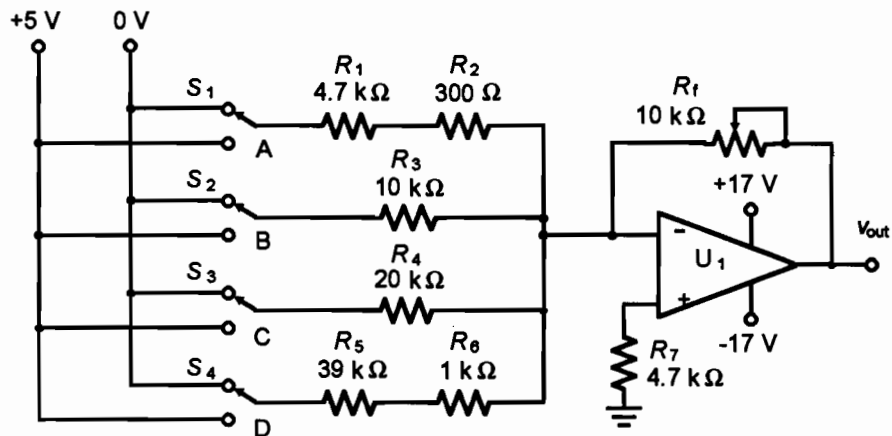

Figure 64.1
1. Construct the circuit of Figure 64.1. Set potentiometer  $R_f$  to 8 k $\Omega$ .
5. If  $R_f$  in the circuit of Figure 64.1 were  $10\text{ k}\Omega$ , what would the converter output be for the logic switches set to 1001? \_\_\_\_\_